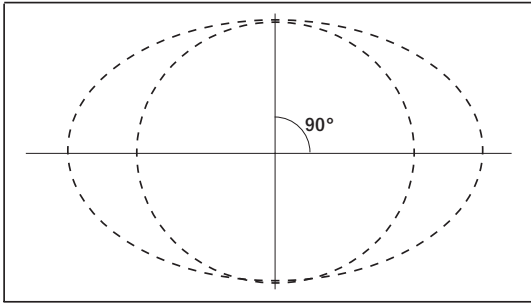
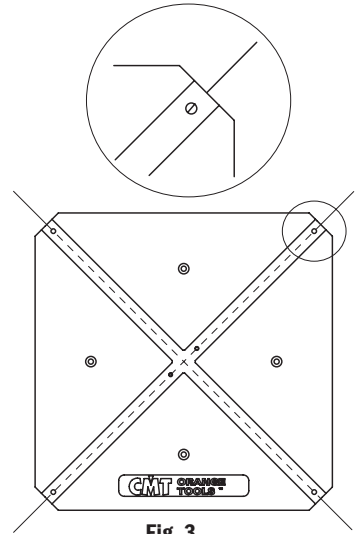
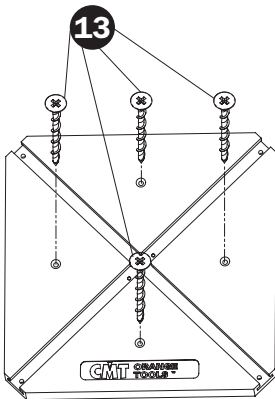

Fig. 2
Fig. 3
Fig. 4
(Fig. 2) Draw the 90° axes of the circle to be cut on the work piece. (Fig. 4) Fix the cross frame (1) to the work piece (Fig. 4) using the wood screws (13) or with double-sided adhesive tape so that the grooves of the cross frame coincide perfectly with the previously individuate axes (Fig. 3).
Indicate the 90° axes of the ellipse to be cut on the work piece and set the dimensions of the ellipse (Fig. 2).
(Fig. 4) Fix the cross frame (1) to the work piece using the wood screws (13) or with double-sided adhesive tape so that the slots of the cross frame (1) coincide perfectly with the previously found axes (Fig. 3).